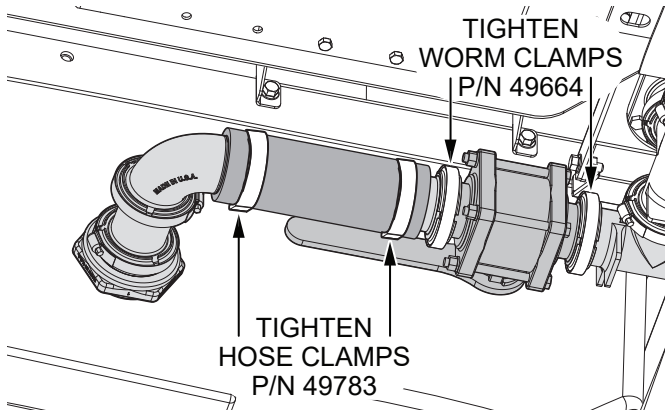

Figure 10. Tighten All Four Clamps
4. If water is leaking from the valve assembly, place the valve handle in the **OFF (closed)** position, then make sure all four clamps (Figure 10) are fully tightened.